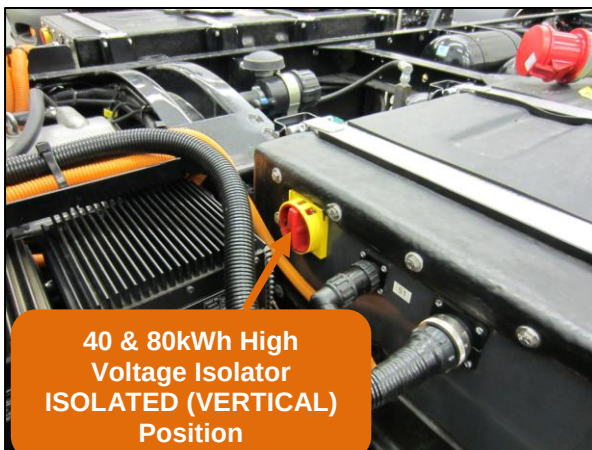

Figure 2.3
- a. There is one High Voltage Isolator Switch on each of the battery pods for the 40kWh and 80kWh systems (Figure 2.3).